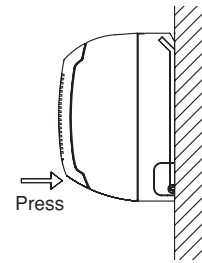

Fig. 3-124
2. Press on the air outlet to hold it in place, and press the lower part of the indoor unit until a “click” sound is heard and the indoor unit is securely fastened to the installation tabs on the lower side of the rear panel. (Fig. 3-124)